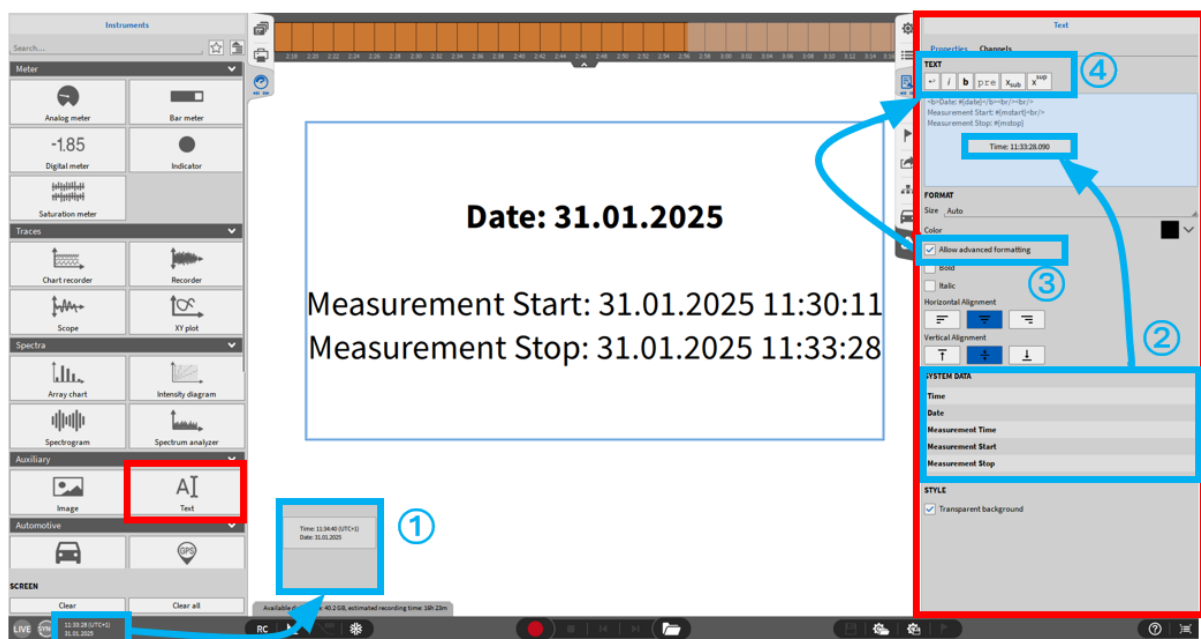

Fig. 8.33: Text instrument – overview
the *Color* square to bring up the color selection palette. The style can be adjusted to **Bold** and *Italic*. Furthermore, the horizontal and vertical alignment can be changed. The advanced text formatting options (see ④ in Fig. 8.33) for formatting only certain words or characters instead of the entire text must be activated via the checkbox (see ③ in Fig. 8.33).
1. The time and date display in the lower left corner can directly be dragged and dropped on the measurement screen (see ① in Fig. 8.33). A Textbox will be created automatically with the according time and date.
2. In the instrument properties the time, date and measurement time can again dragged and dropped into the text field (see ② in Fig. 8.33) or be added with a double click on the respective element.